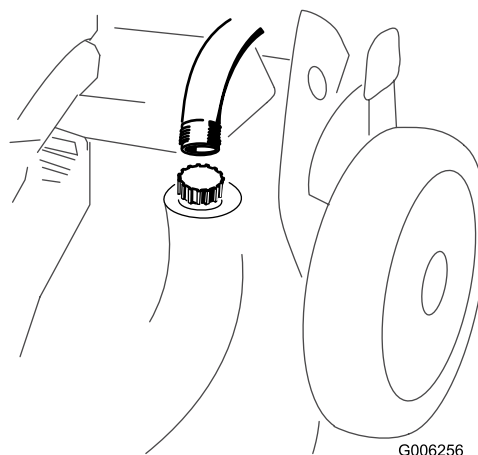

Figure 34
3. Attach a garden hose that is connected to a water supply to the washout port on the mower housing (Figure 34).